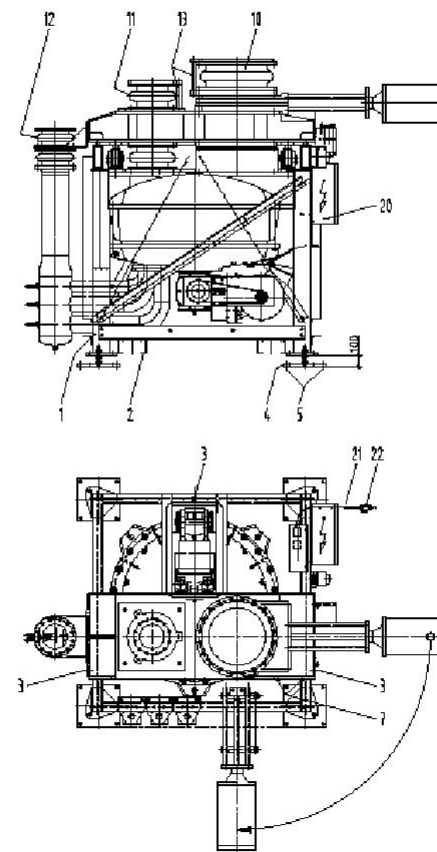

Figure 2: Rotor weighfeeder DRW
Location deviations for the downpipe compensator (10); → Fig. 2
Location deviations for the blow-out pipe compensator (11); → Fig. 2